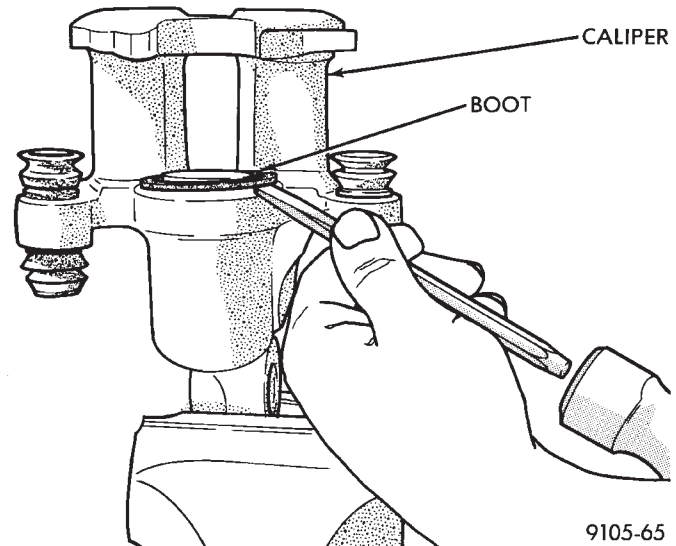

Fig. 1 Removing Piston Dust Boot
(5) Support rear caliper assembly in a vise. Then remove caliper to piston dust boot and discard (Fig. 1).